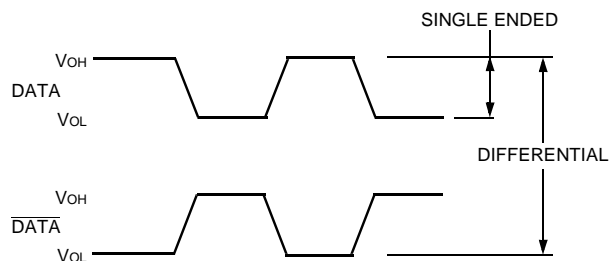

Figure 2. Data Input/Output Logic Level Definitions
* 50 % load, measured single ended. Differential operation is necessary for optimum performance. (See Figure 2 for visual representation.)
† 50 % load, measured single ended. Differential operation is necessary for optimum performance.(See Figure 2 for visual representation.)